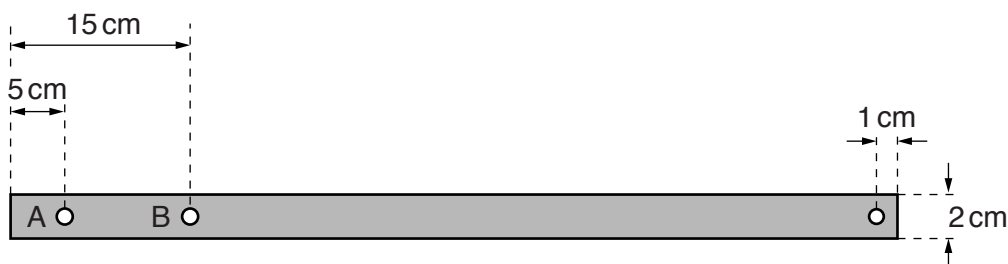

Fig. 2.2 (not to scale)
- 2 Drill three holes in the wooden strip as shown in Fig. 2.2. It should be possible for the strip to swing freely when supported from the nail through each of the holes.
Two of the holes should be labelled A and B as shown in Fig. 2.2.